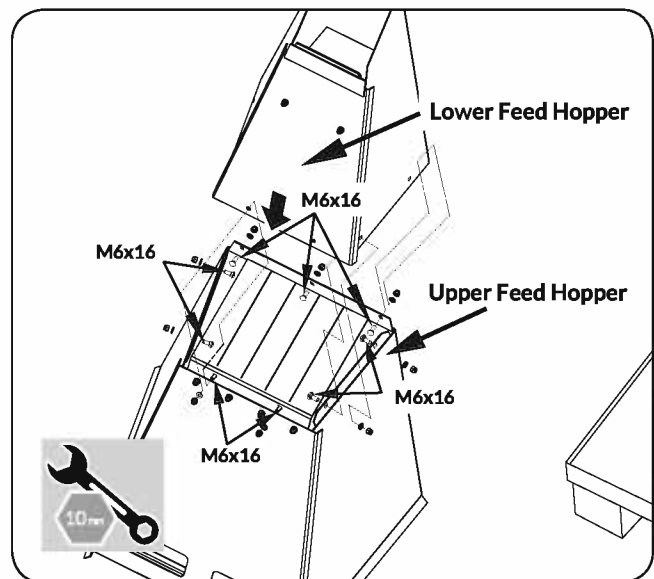

Figure 5
3. Secure the two hopper pieces together using M6x16 bolts, flat washers and nuts (see **figure 5**)